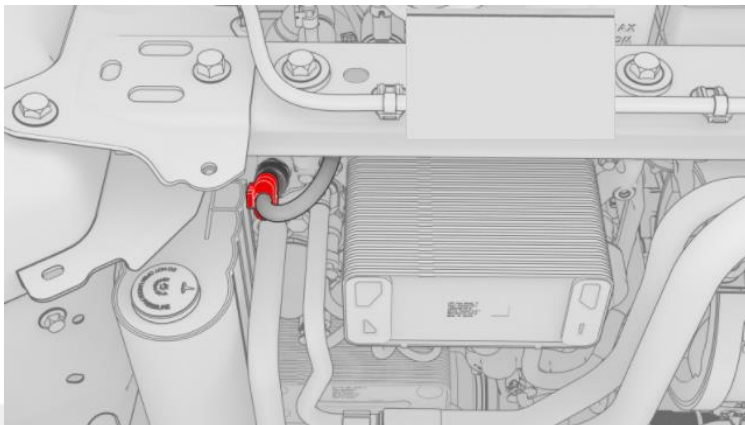

Figure 3
6. Release the locking tab, and then disconnect the electrical harness from the low pressure P/T sensor connector (Figure 3).
20. Connect the electrical harness to the low pressure P/T sensor connector, and then fasten the locking tab (Figure 3).